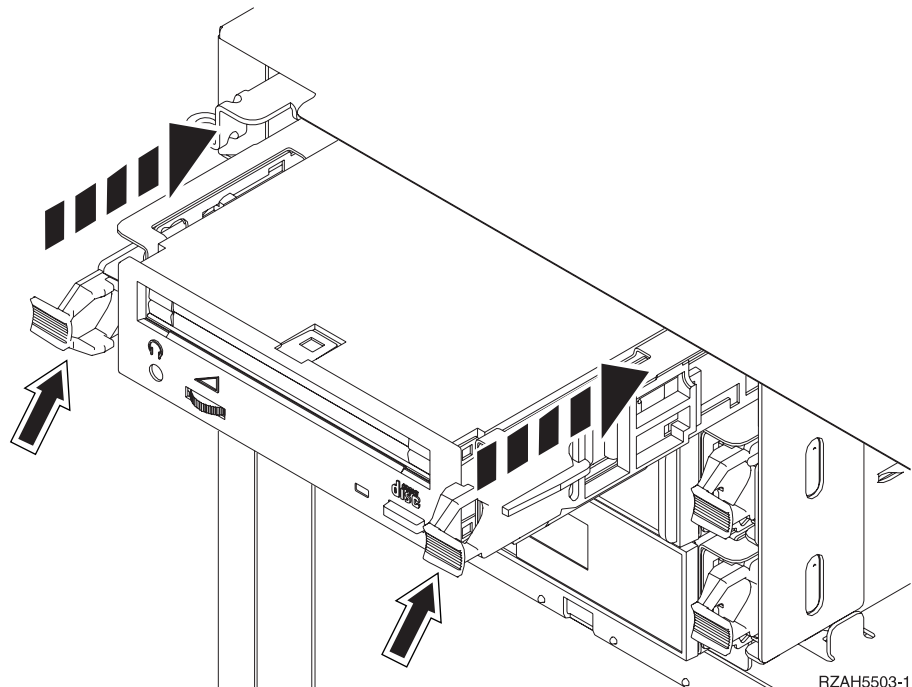

Figure 43. Installing removable media
- ___ 15. Refer to Figure 43 and align the removable media device assembly with the next available slot.